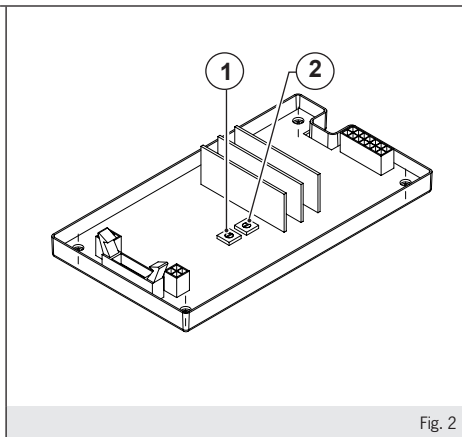

Fig. 2
The machine has inside an electronic regulator (fig.2) and adjustment potentiometers (fig.3) to guarantee the performances in current and voltage. Below the indication of the trimmers with relative functionalities:
- fig.2 - trimmer (1): Maximum welding current setting;
- fig.2 - trimmer (2): Minimum welding current setting;